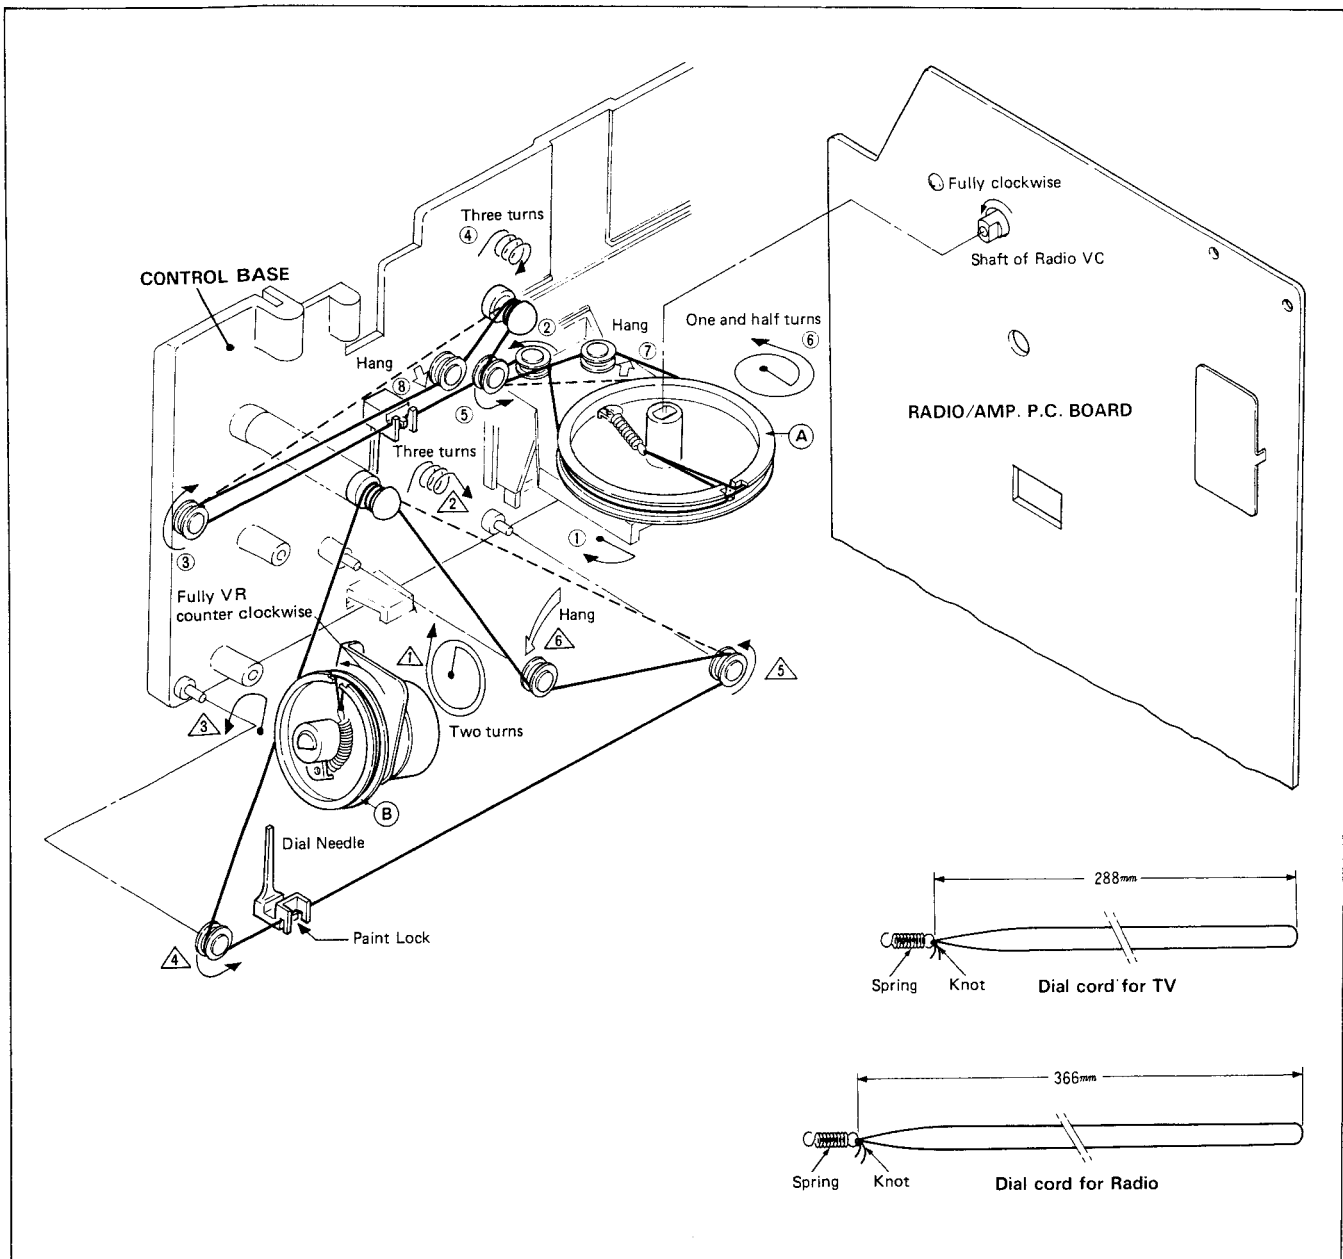

Fig. 14
2. After aligning the pulley marked (A) in Fig. 14 to the position indicated on the figure, set the cord in the order shown by the encircled numbers.
3. After fully rotating the variable capacitor of the radio/amplifier printed circuit board counterclockwise when viewed from the printed circuit board rear side, insert the capacitor shaft into pulley (A).
2. After aligning the pulley marked (B) in Fig. 14 to the position indicated on the figure, set the cord in the order shown by numbers in the triangles.